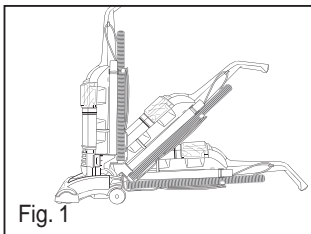

Fig. 1
- 1) Use handle release to lower handle flat onto floor (Fig. 1).
- 1) Remove hose from hose retainer. Flexing the hose will loosen any blockage (Fig 1).